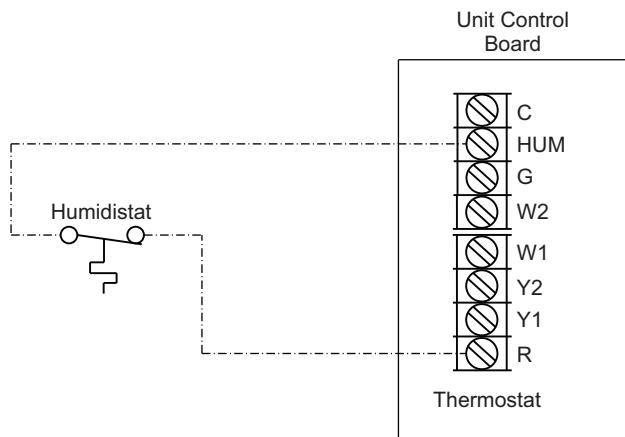

Fig. 55 – Humidistat Connections to UCB
3. Connect one of the leads from the 2-conductor cable to the HUM terminal on the UCB (Unit Control Board). Connect the other lead to the R terminal on the UCB. See Fig. 55.